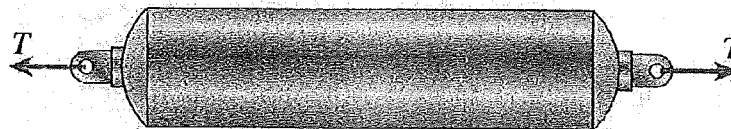

Figure 3
3. [a] A cylindrical tank having diameter  $d = 60 \text{ mm}$ , is subjected to internal gas pressure  $p = 4 \text{ MPa}$  and an external tensile load  $T = 4.5 \text{ kN}$  (Figure 3). Determine the minimum thickness,  $t$ , of the tank wall based upon an allowable shear stress of 20 MPa.